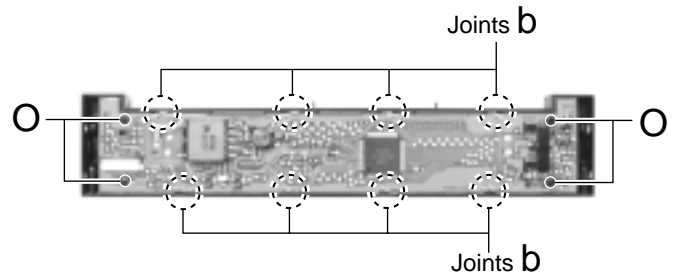

Fig.12
**■ Removing the Front Board (See Fig.12)**